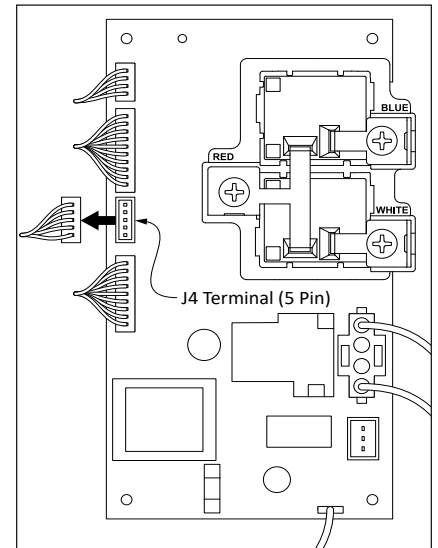

Figure 73 - Locating J4 Terminal on Printed Circuit Board
- 13** Run the new solenoid wires through the wire guides and under the daughter board bracket. Connect wires to the J4 terminal on the daughter board (Figure 73).